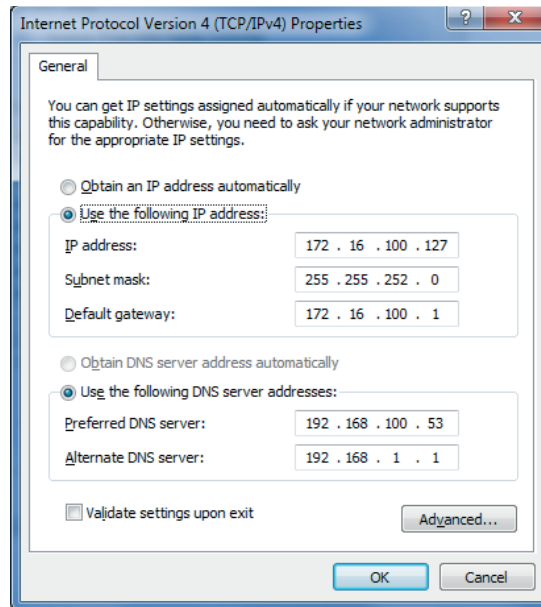

Figure 3-34
1. Set the IP address of the PC. See Figure 3-34: